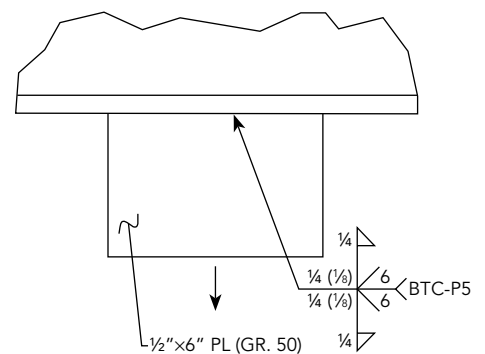

Figure 3
- 4 How much strength does the fillet reinforcement add to the PJP groove-welded detail shown in Figure 3, where $F_{EXX} = 70$ ksi?
- 4 The fillet reinforcement adds no strength. It may be tempting to add the strength of a reinforcing fillet weld to the strength of a PJP groove weld when determining the strength of a detail similar to what is shown in Figure 3. This usually is incorrect, however. Instead, the strength must be determined by finding the effective throat of the weld (see the figure below). In this particular example, the effective throat size per inch of weld group (with two PJP groove welds) is equal to: